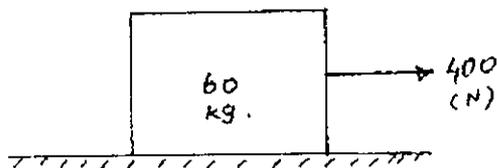

Fig. 9
15. (a) The 50kg block shown in Fig.9 rests on a horizontal plane for which the coefficient of kinetic friction is 0.3. If the block is pulled by a 350N force as shown, determine the velocity of the block after it has moved 65m starting from rest. Use the principle of work and energy.